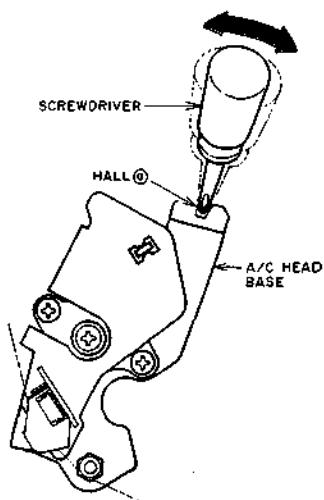

Fig. 5-8
- 4) Insert a sharpness screwdriver into A/C HEAD base and hall ⑥ as shown in Fig. 5-8.
- 5) Move the A/C HEAD base by moving a screwdriver in the directions of the arrow as shown in Fig. 5-8 to obtain the maximum RF envelope.